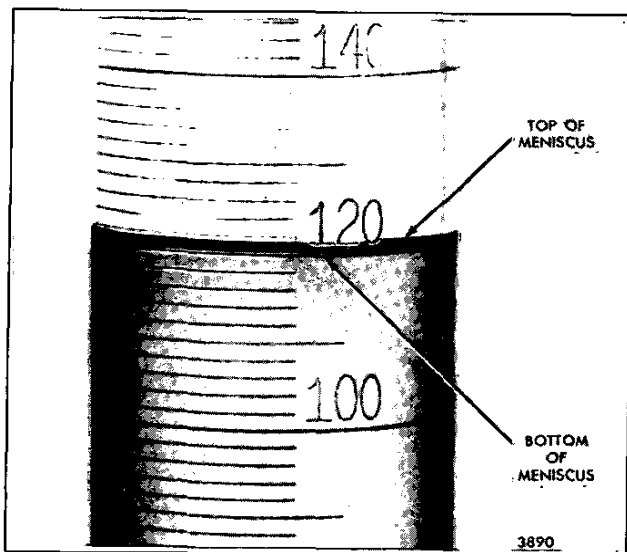

Fig. 10 - Checking Fuel Output
1. **Operator Errors:** If the column of liquid in the vial is read at the top of the meniscus instead of at the bottom, a variation of 1 or 2 points will result. Refer to (Fig. 10).